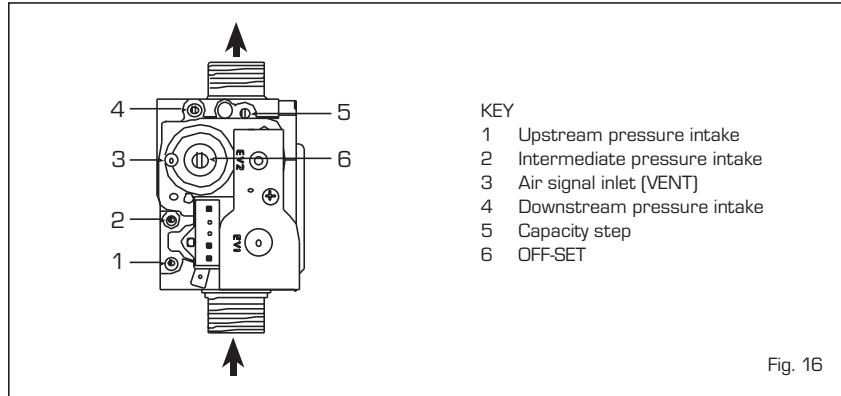

Fig. 16
The boiler is supplied as standard with a gas valve, model SIT 848 SIGMA (Fig. 16).
3) Identify the CO₂ values at max. power by adjusting the shutter (5 in Fig. 16):
5) Identify the CO₂ values at min. power by adjusting the OFF-SET regulation screw (6 in Fig. 16):